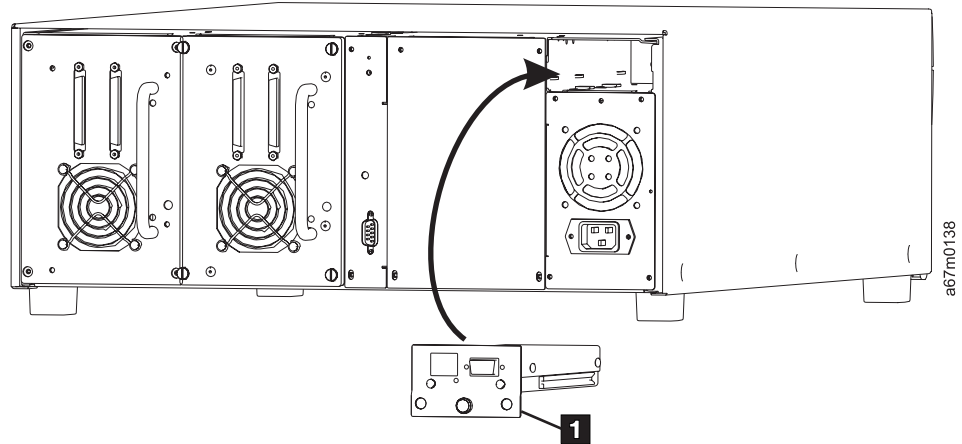

Figure 42. RMU module installation
- ___ 4. Slide the RMU (see **1** in Figure 42 on page 61) into position and tighten the thumbscrew.